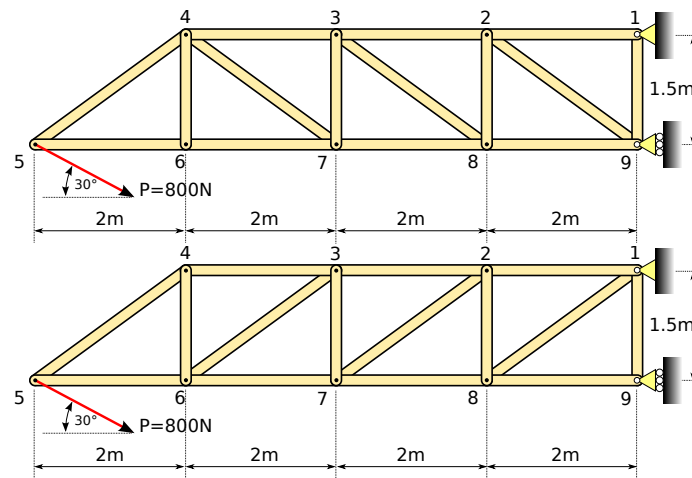

Figure 1: Structures for problem 1.
3. Once the program is written and tested, write the input files for the structures shown in Figure 1 and solve for all nodal displacements. All bars have identical cross-sectional area $A = 0.1\text{cm}^2$ and Young's modulus $E = 70\text{ GPa}$.